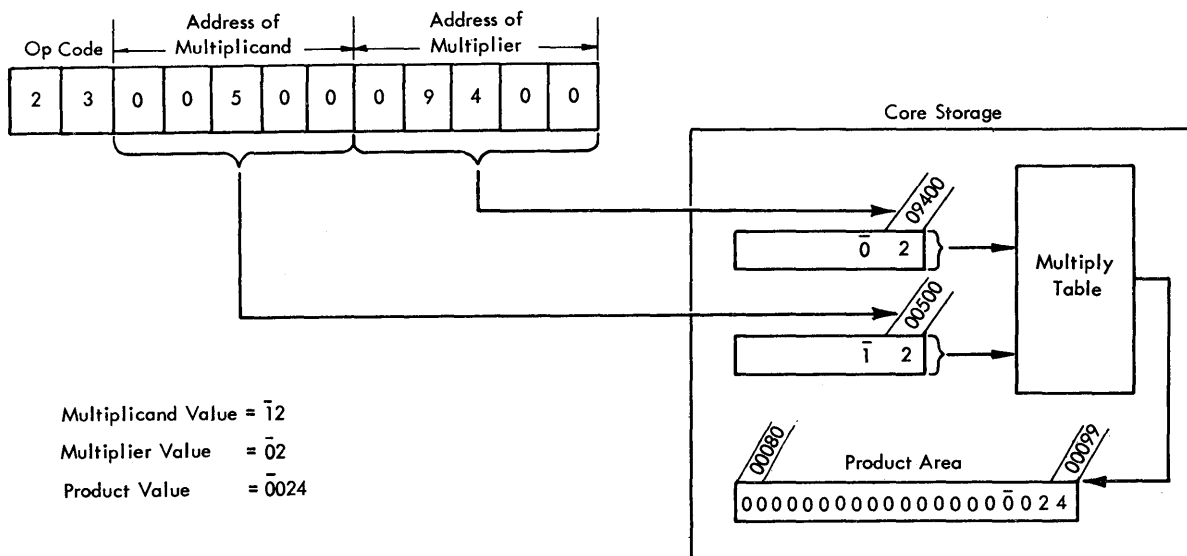

Figure 24. Multiply Instruction - Data Flow
In Figure 24, the multiplicand ($\bar{1}2$) at 00500 is multiplied by the multiplier (02) at 09400. The product (0024) is developed and stored at 00096-00099.